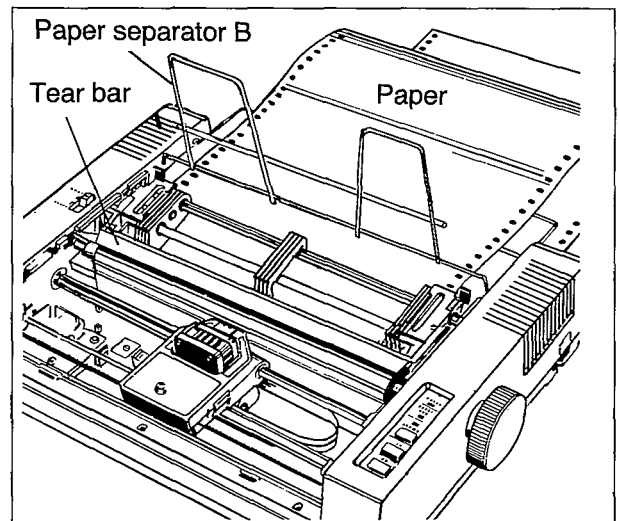

Figure 2.6C Inserting Fanfold Paper
- Feed the paper into the printer as shown in Figure 2.6C. The printer will grip the paper and rotate it about half-way around the platen.